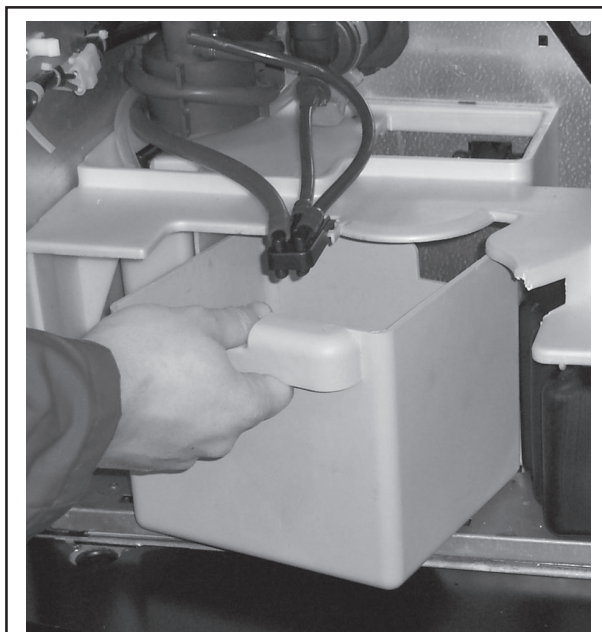

fig.47
- empty and clean the dump box (fig.47) or clean the conveyor.